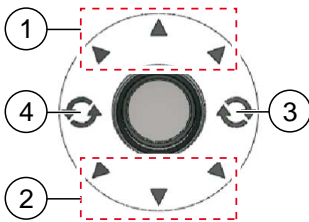

Fig. 4: Joystick functions
- Forwards/backwards fig. 4 (1,2)
- Turning areas fig. 4 (3,4)
- The caravan can be moved infinitely variably in the selected direction in the areas for forwards (1) or backwards movement (2).
- If the joystick is moved sideways into a turning area, the caravan pivots to the right (3) all left (4) about its own axis.